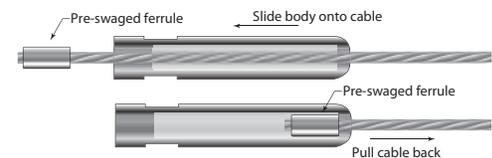

Figure 3
3. Slide the body of the Adjust-a-Body[®] with Extended Length Hanger Bolt Tensioner onto the bare end of the cable, threaded end first, and pull it the length of the cable until it is stopped by the ferrule already swaged onto the cable. (Figure 3)